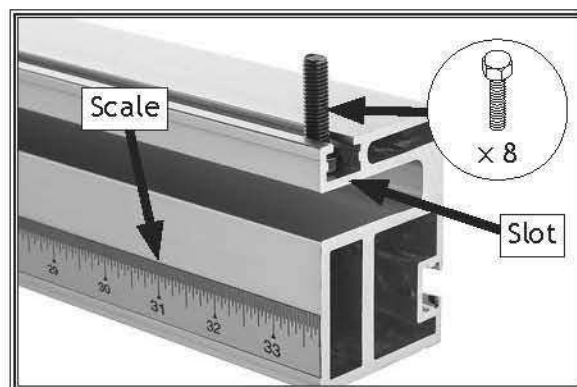

Figure 23. Hex bolt positioned in front fence rail slot.
12. Orient fence rail so scale faces you. Slide (8) M8-1.25 x 30 hex bolts into open slot (see Figure 23).